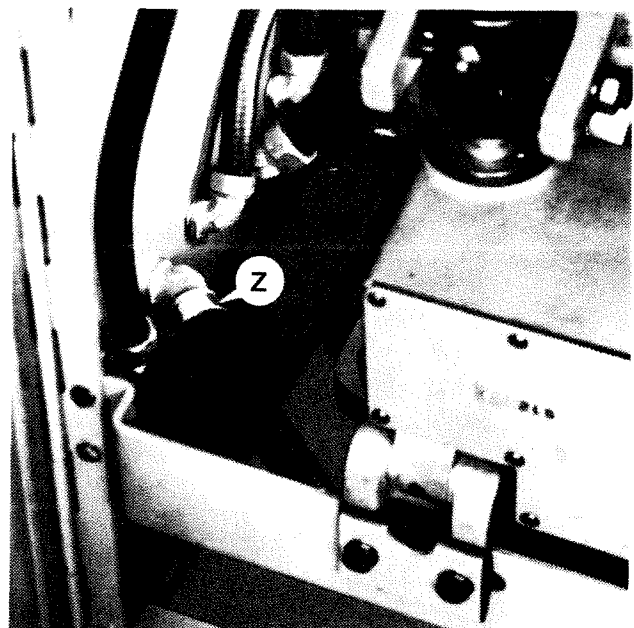

Figure 3.28 - Speed Change Conduit Connector
11. Remove nut "Z", Figure 3.28, from the conduit connector and pull the speed change mechanism wires into the pedestal.
7. Install and secure the conduit connector with nut "Z", Figure 3.28 .